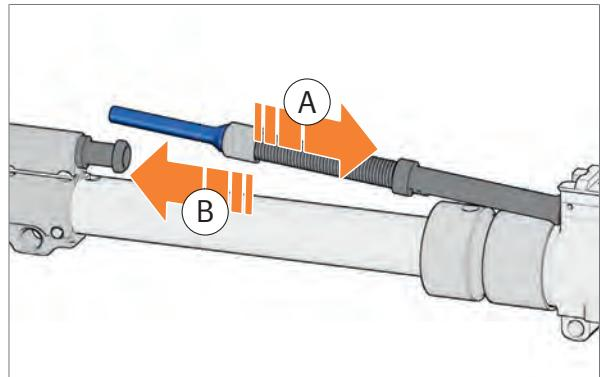

Fig. 120: Insert rod
2. Insert rod into receiver in assembly position (Fig. 120).
3. Press rod to the rear against spring force and insert into gas piston (Fig. 120).